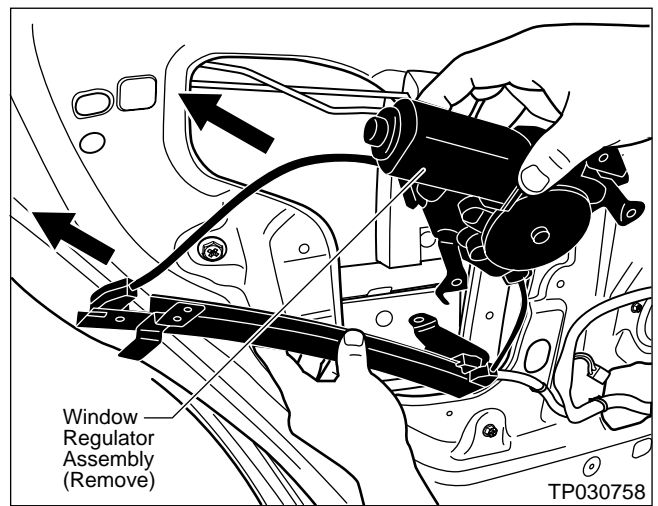

Figure 21
12. Remove the Window Regulator Assembly from the door (see Figure 21).